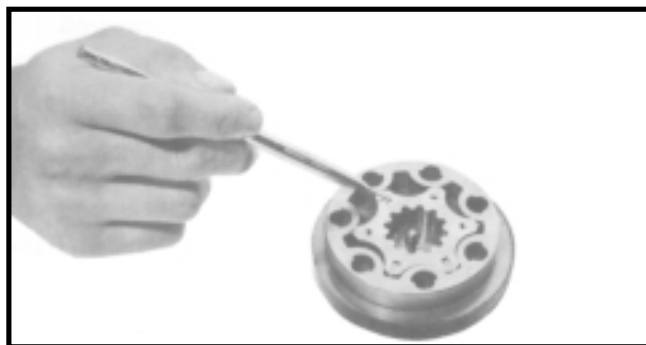

Figure HGA-15
5. End cover and pin assembly (38).
Note: The rotor set (31) requires special attention in handling to avoid nicks and scratching. It is recommended that the rotor (31B), stator (31A), vanes (31D) and springs (31C) be checked in the assembled condition. To inspect the rotor set, place the assembly face down on the lapped face of the end cover (38) and check for freedom of rotor rotation within the stator. The action of the spring loaded vanes may be observed during rotation. The vanes should move freely in their slots, without bind, due to the forces of the springs. (See Figure HGA-15).